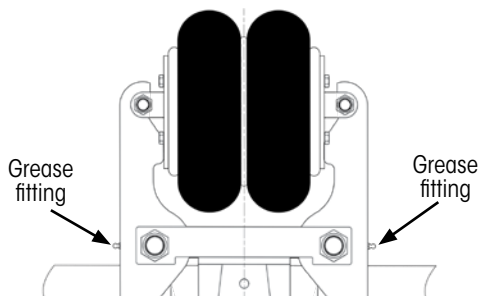

Figure 4: Locking arm lubrication
- D. Locking arm - one grease fitting for each arm Figure 4.